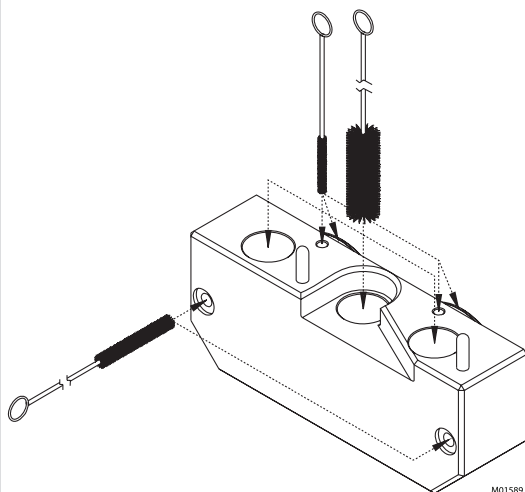

Figure 8-7
- b. the head spigot openings, center spigot ports, o-ring grooves, dispense nozzle mounting rings, and mix ports, as shown in figure 8-7.